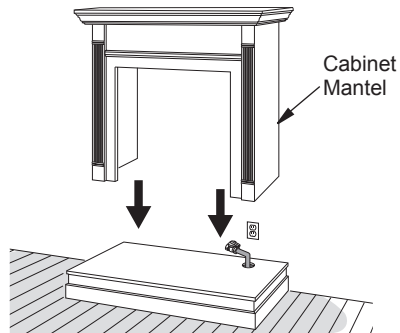

Figure 21 - Installing Cabinet Mantel
6. Center cabinet mantel on hearth base (see Figure 21). Make sure mantel is flush against wall and centered left to right on base.